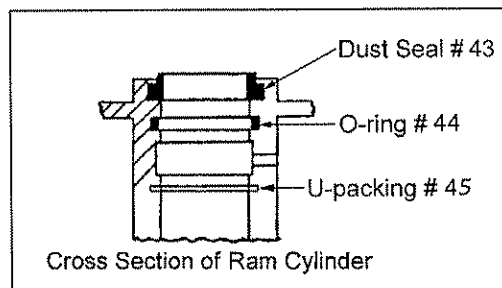

Fig. 6
- ⊖. Remove shaft (18). This will free the pump and handle assembly from the pallet truck.
- ⊗. Remove the oil plug (46), turn pump over and empty the oil into a suitable container. Pump handle until all oil has drained. Dispose of used hydraulic oil according to local disposal regulations.
- . Pull out plunger piston (40) and/or ram piston (42).
- . Remove all O-rings and seals. See Fig. 6.